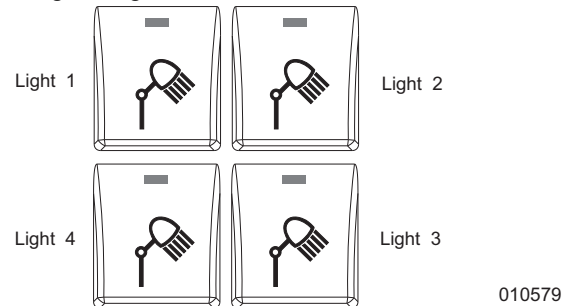

Figure 3-42. Light Fixture ON-OFF Buttons
- See Figure 3-42. Switch lights OFF (O) by pressing the light ON-OFF buttons.